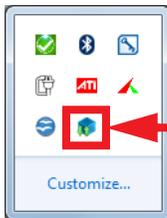
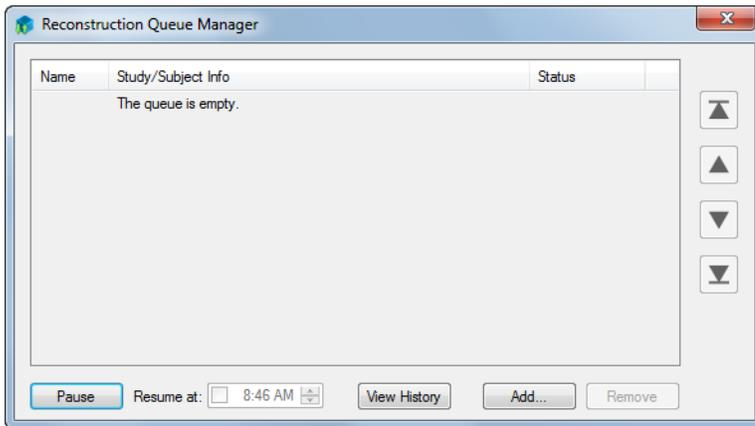

Figure 6-7. Reconstruction Queue icon in the Windows Tray.
Figure 6-8. Reconstruction Queue Manager window
1. Double-click the **Reconstruction Queue** icon in the Windows tray, at the bottom right of the screen, as shown in Figure 6-7. The **Reconstruction Queue Manager** window opens and initially shows an empty queue (Figure 6-8).